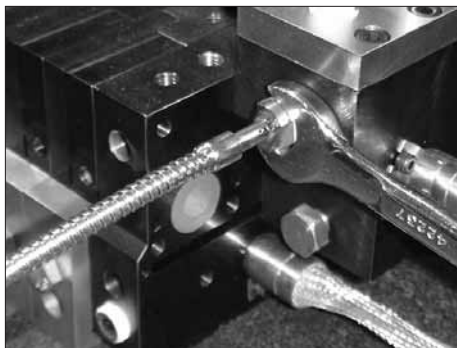

Figure 7-18 Removing a filter block pressure transducer
2. See Figure 7-18. If applicable, use a $\frac{5}{8}$ -in. wrench to carefully remove all pressure transducer(s) installed on the applicator.